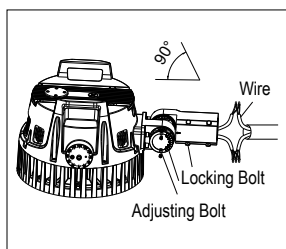

Figure 14
- Loosen the four locking bolts on the slip fitter, connect the wire correctly, and place the wire into the pole. Then, fasten the locking bolts between the slip fitter and the pole (Figure 14).
Note: The adjustable angle is 0-90° (Figure 14).